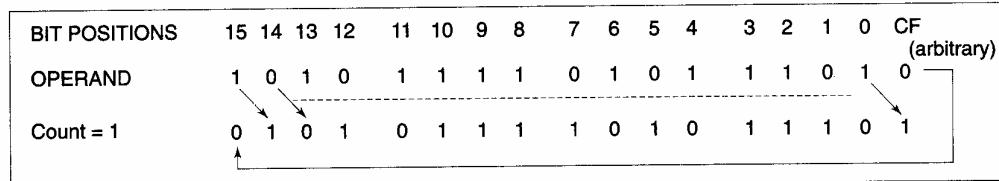

Figure 5.8: Execution of RCR Instruction
RCR: Rotate Right through Carry: This instruction rotates the contents (bit-wise) of the destination operand right by the specified count through carry flag (CF). For each operation, carry flag is pushed into the MSB of the operand, and the LSB is pushed into carry flag. The remaining bits are shifted right by the specified count positions. The SF, PF, ZF are left unchanged. The operand may be a register or a memory location. Figure 5.8 explains this operation.